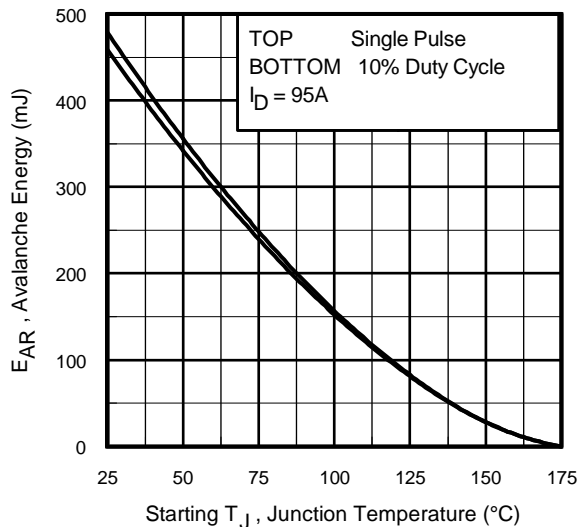

Fig 15. Maximum Avalanche Energy Vs. Temperature
**Notes on Repetitive Avalanche Curves , Figures 15, 16:
7. ΔT = Allowable rise in junction temperature, not to exceed T_{jmax} (assumed as 25°C in Figure 15, 16).